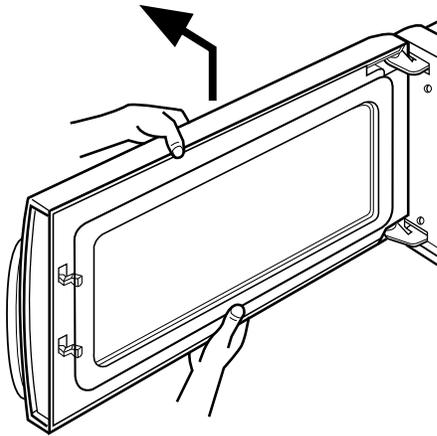

Figure 15
F. REMOVING DOOR (Figure 15)
- (1) Remove the vent grille by removing two screws securing it to the outside case loosening.
- (2) Lift up and remove the door.